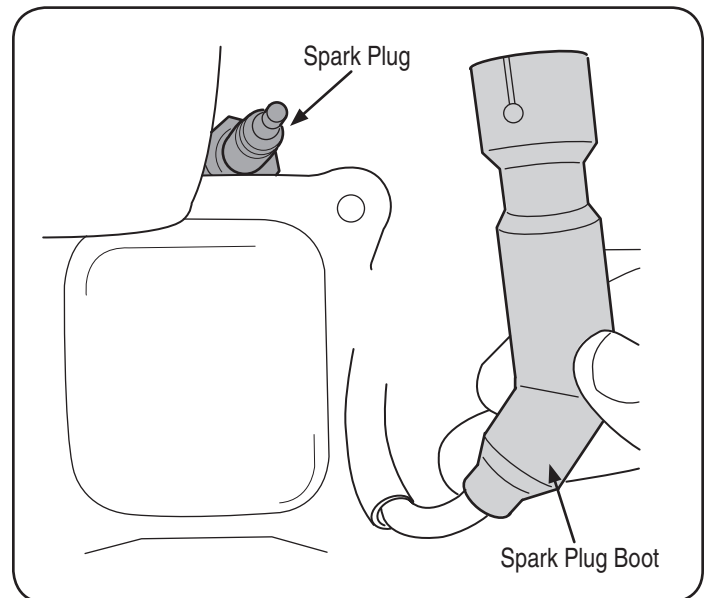

Figure 15
2. Remove the spark plug boot and use a spark plug wrench to remove the plug, Figure 15.